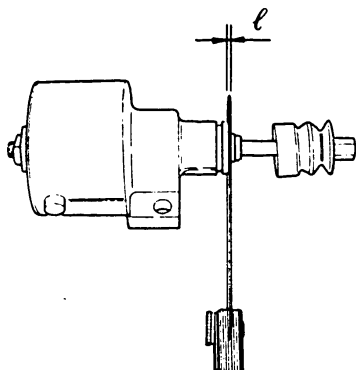

Fig. 75 Gap (ℓ) measurement
2. Ensure the gap between the housing and snap-ring is as specified in the Service Data. (Fig. 75)